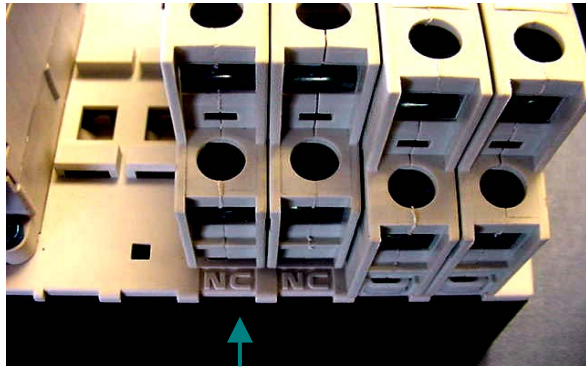

Figure 3
3. Check for the lettering on the base. "NO" should be visible if the power pole is assembled as normally open, and "NC" should be visible if it is assembled as normally closed (see Figure 3).